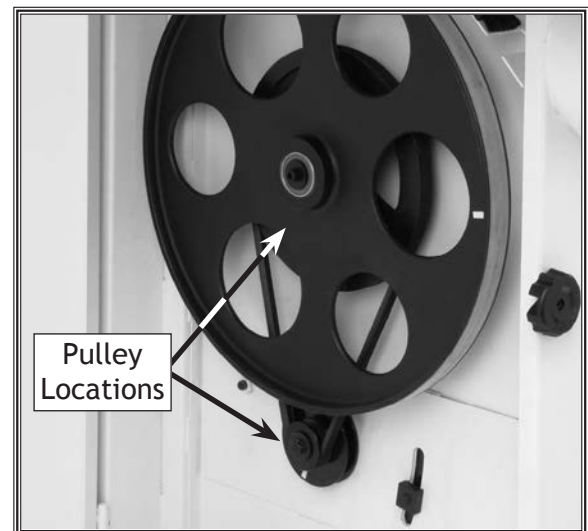

Figure 30. Two-speed pulleys.
2. Open the lower pulley access door (see **Figure 30**).